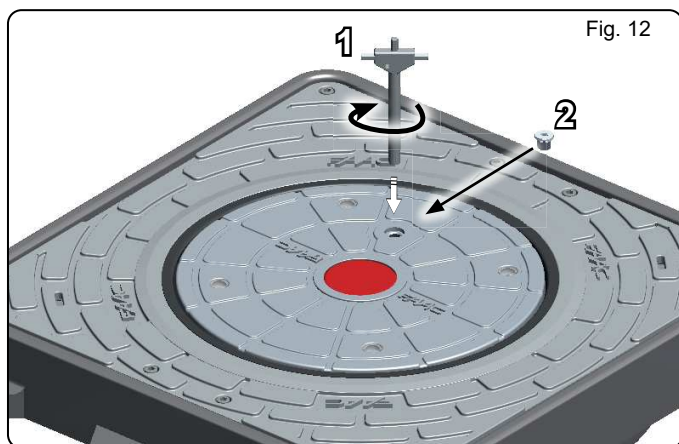

Fig. 12
2. Turn clockwise till end of stroke (fig. 12 ref.1).
3. Tighten again the closing screw on the bollard head (fig. 12 ref.2).